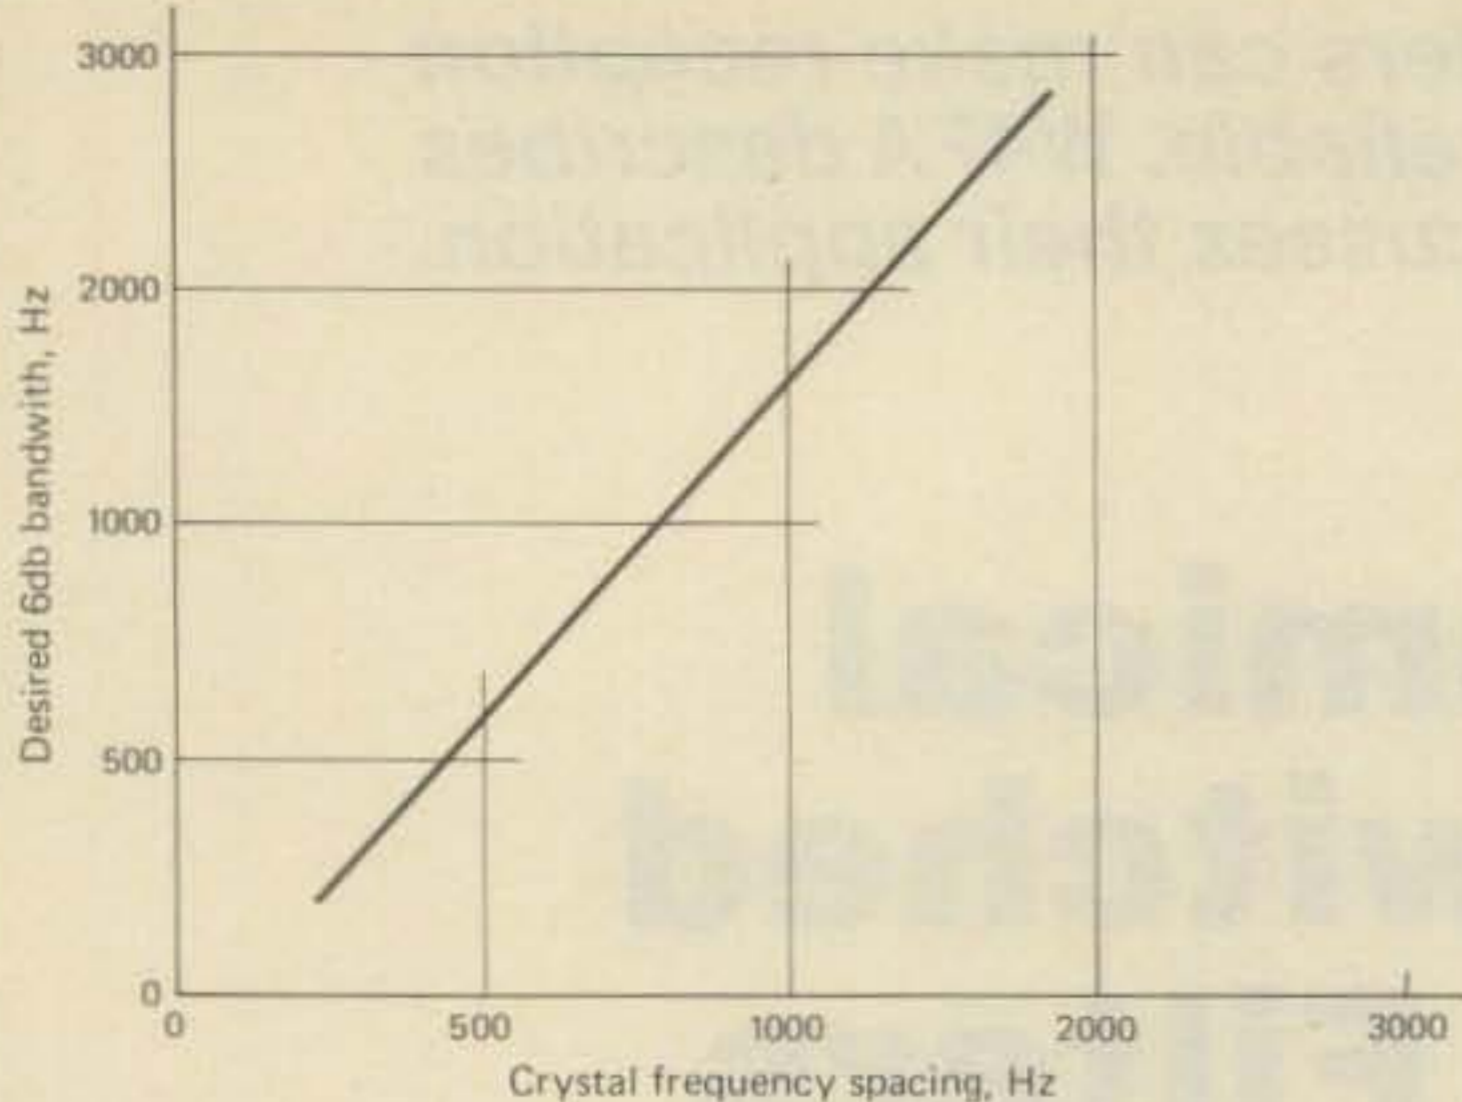
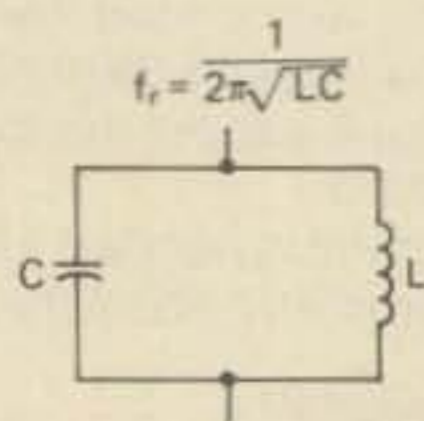

Fig. 2 - Approximate frequency spacing of crystals used in the circuit of fig. 1. The graph is used to obtain various filter bandwidths.
Fig. 1 - A parallel-tuned resonance circuit.
**Fig. 1 - Filter circuit using single crystal pair for each degree of selectivity. With the switch as shown, Y1A and Y1B are active. The frequency spacing between the crystals in a pair can be estimated from fig. 2. For example, for a 455 kHz i.f., if a 500 Hz bandwidth were desired, the spacing would be 300 Hz. Y1A would be 455.150 and Y1B would be 454.850.**
Fig. 1 shows the two-crystal filter circuit. The diode switching arrangements shows only two pairs of crystals being used but this can be expanded as desired. 1N458 diodes are used as switches. When forward biased from the + line, the diodes switch "in" the applicable crystal. Note the 5.6k resistor at the output side of the tuned circuit. This is used to develop a positive voltage to ensure that the diodes which are associated with the crystals switched "out" of the circuit are definitely reverse biased in conjunction with having the anode side of those diodes switched to ground. The tuned circuit resonates at the particular i.f. frequency being used. Often, one can obtain a replacement i.f. transformer or tuned circuit for a given piece of equipment to use. About any form of home-brew resonant circuit will also work although it should be shielded. If one cannot obtain a tuned circuit with a
The individual crystal frequencies are chosen on the basis of the bandwidth desired. For c.w. usage a 500 Hz bandwidth at 6 dB is often used. In this case, the crystals would be chosen 300 Hz apart in frequency (that is, one being 150 Hz above and one 150 Hz below the i.f. center frequency). For a resultant 2.7 kHz s.s.b. bandwidth, the crystals are spaced 1.8 kHz in frequency and for a 2.1 kHz s.s.b. bandwidth, the crystals are spaced 1.25 kHz in frequency. The reason, of course, that the bandwidth is larger than the crystal frequency spacing is that the skirts or sides of the crystal filter bandpass shape are not vertical but flare out. The crystal frequency spacing for other bandwidths is shown approximately by the graph of fig. 2. Fig. 3 shows a typical bandpass shape for the crystal filter.
Fig. 4 - The four crystal filter circuit (two pairs of crystals for each selectivity position) is a simple expansion of the circuit of fig. 1. The diode switching shown could be further simplified but the parts cost saving would be minor and the circuit as shown does allow those who like to experiment to independently switch in crystals by controlling each diode separately. This would be done by connecting each 15k resistor to a separate switch. Sometimes, depending on the crystal frequencies involved, useful additional selectivity options can be obtained.
ments apply for the tuned LC circuit as for the circuit of fig. 1. The crystal frequency spacing is also approximately the same with a pair of spaced frequency crystals being placed on each side of the tuned circuit. As is readily apparent, the circuit of fig. 1 can be easily expanded to that of fig. 4 if the former circuit does not deliver the performance needed and one allows for this expansion in the method of construction used. The advantage of the four-crystal circuit is greatly increased skirt sharpness as shown in fig. 3.
Adjustment of the crystal filter requires first that the tuned circuit associated with it be peaked at the i.f. frequency. This can be done using a signal generator or just the signal from a calibrator. In any case, one should take care that the signal going through the i.f. chain is at the center frequency of the i.f. bandpass. For the circuit of fig. 1, one of the upper crystals can be temporarily shorted and its associated lower crystal temporarily removed from the circuit to peak the tuned circuit. The same is true for the circuit of fig. 4, except that both upper and both lower crystals are involved.
Consider fig. 1, which is a diagram of a parallel tuned circuit. The resonant frequency of the circuit is a function of the values of the capacitor,  $C$ , measured in farads and the inductor,  $L$ , measured in henries. The resonant frequency is given by
By changing either the value of  $L$  or the value of  $C$  in the tuned circuit of fig. 1 a corresponding change in its resonant frequency can be realized. For example, if the resonant frequency of the circuit in inset 2 were changed from 14.085000 MHz to 14.085170 MHz the seed of 170 Hz shift RTTY would be sown.
Referring to fig. 2, note that a capacitor,  $C_p$ , has been placed in parallel with the tuned circuit. Upon doing this, the capacitance in the circuit increases (capacitances in parallel add) and the resonant frequency of the tank is thus lowered.
Fig. 2 - Changing the resonant frequency of a parallel-tuned circuit by placing a capacitor in parallel with it. The two capacitances add, thus lowering the resonant frequency.